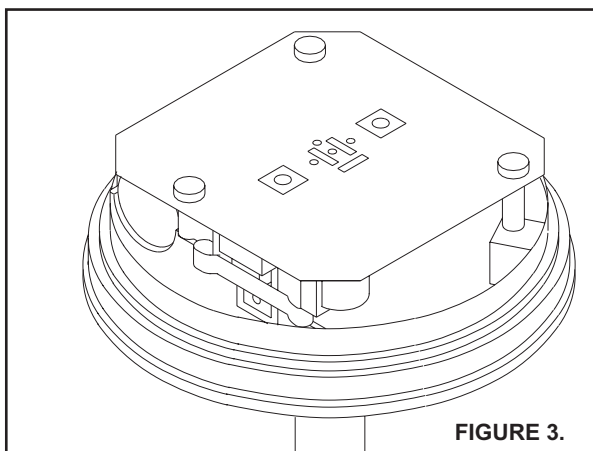
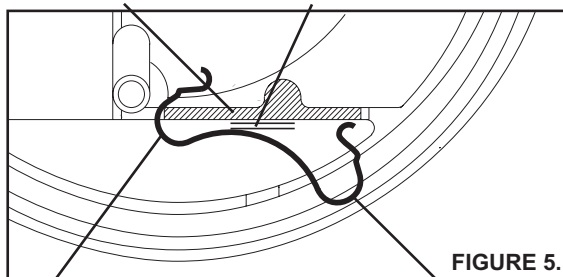

FIGURE 3.
FIGURE 5.
**FIGURE 3.** Use the transistor spring clip to secure firmly the Cho-Therm insulator and the power supply assembly to the mounting boss of the cast aluminum base. Wrap one end of the clip around one side of the mounting boss, then press the other end in position using needle nose pliers. (See figure 5 and note in figure 4 "B").